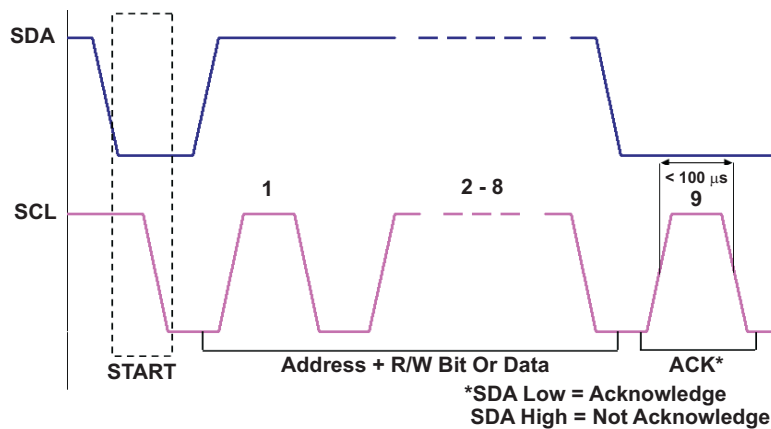

Figure 8. Acknowledge Bit Requirements
- Acknowledge bit (Figure 8): Acknowledge (ACK) or no-acknowledge (NACK) occurs on the ninth rising edge of SCL during each byte. After ACK or NACK, SCL must fall within 100 μ s of SCL rising.